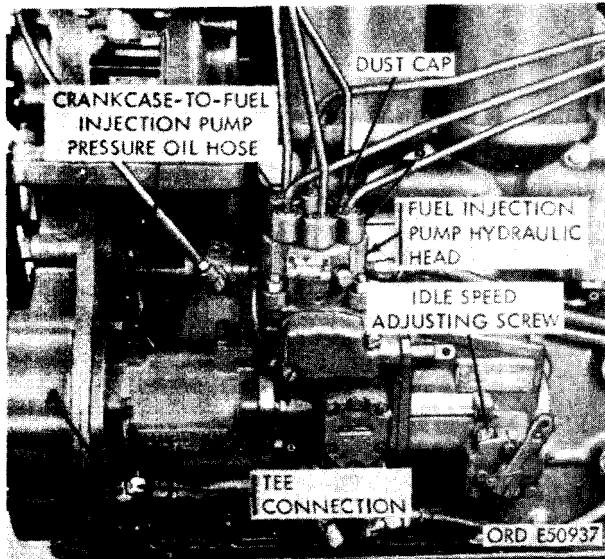

FIGURE 56. DISCONNECTING OR CONNECTING CRANKCASE - TO - FUEL INJECTION PUMP PRESSURE OIL HOSE AT PUMP AND LIFTING DUST CAPS.
- (1) Figure 56. (A) Disconnect crankcase-to-fuel injection pump pressure oil hose from tee connection at bottom of fuel injection pump automatic advance unit. (B) Slip the six dust caps from the fuel injection tube nuts at the fuel injection pump hydraulic head.
- (7) **Complete installation of fuel injection pump assembly.** Refer to figures 56 through 61 and reverse the sequence of illustrations and instructions to complete installation of the fuel injection pump assembly.